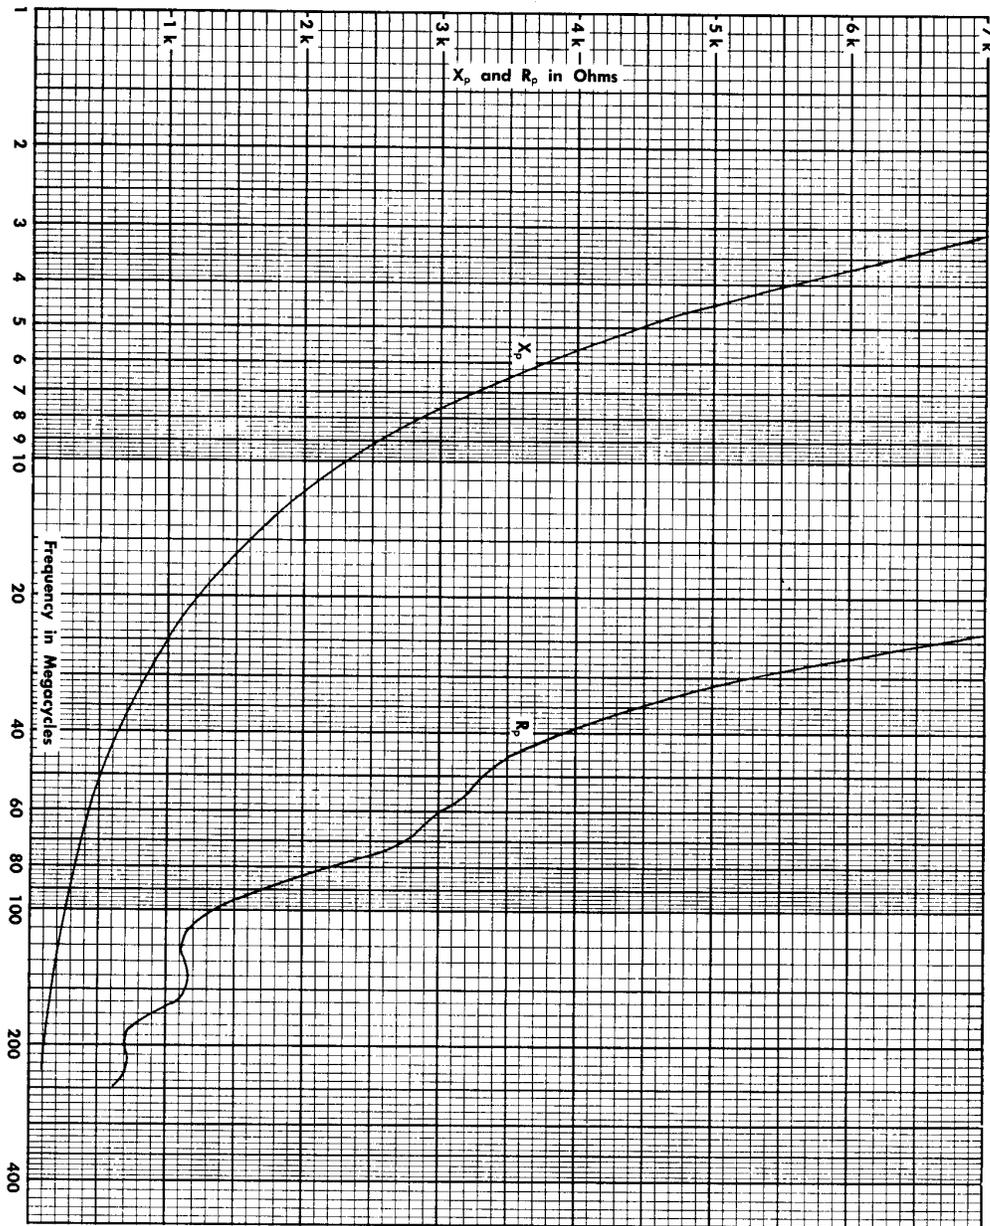

Fig. 2-3. P6008 Input Resistance and Reactance Versus Frequency.
Fig. 2-3 shows input impedance vs frequency up to 250 megacycles.
1. Loading—Fig. 2-3 is a graph of the probe input resistance and reactance versus frequency measured with the probe connected to the plug-in and an R-X meter connected to the probe input. X_p represents capacitive reactance, and R_p represents resistance. The input impedance of the probe may affect the operation of the circuit under test.